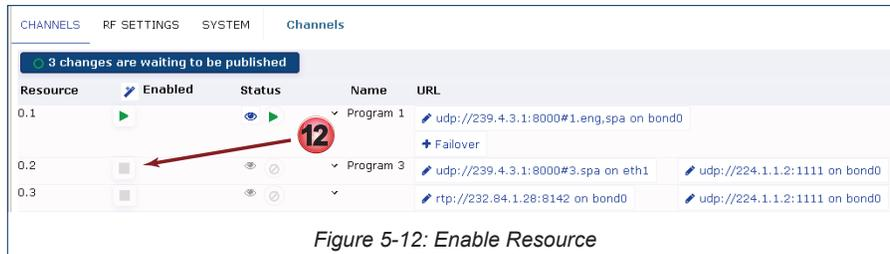

Figure 5-12: Enable Resource
12. The Resource needs enabling, click the **Enable Button** icon to turn it to a **green triangle** , see Figure 5-12.